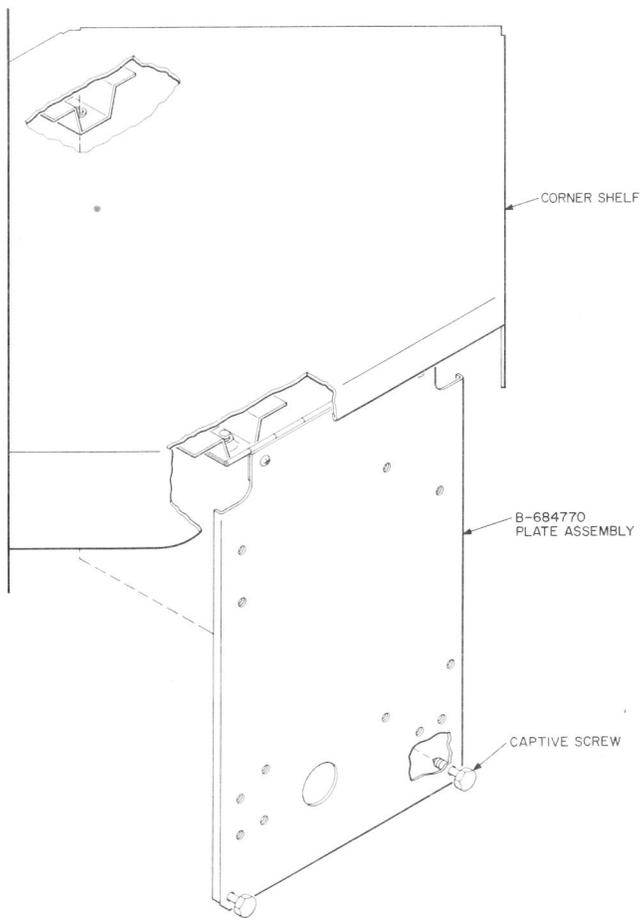

Fig. 6—Subscriber Set Mounting Bracket
2.18 If a subscriber set is required, a hinged mounting bracket for this purpose is located under the corner shelf. (Fig. 6).